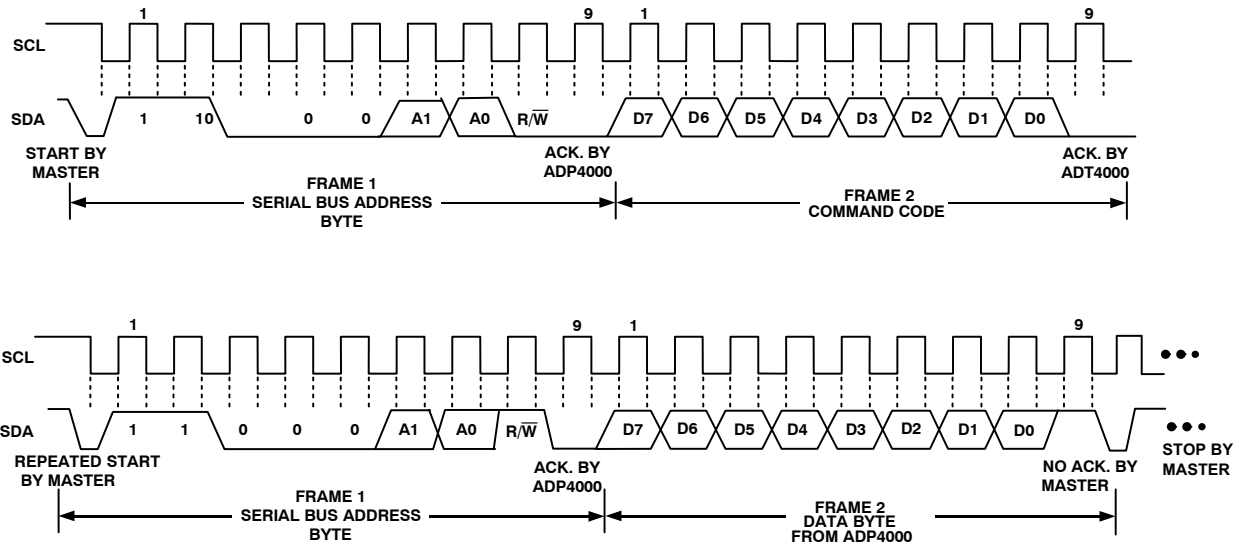

Figure 13. Read Byte
2. The read byte operation is shown in Figure 13. First the command code needs to be written to the ADP4000 so that the required data is sent back. This is done by performing a write to the ADP4000 as before, but only the data byte containing the register address is sent, because no data is written to the register. A repeated start is then issued and a read operation is then performed consisting of the serial bus address; $R/\overline{W}$ bit set to 1, followed by the data byte read from the data register.